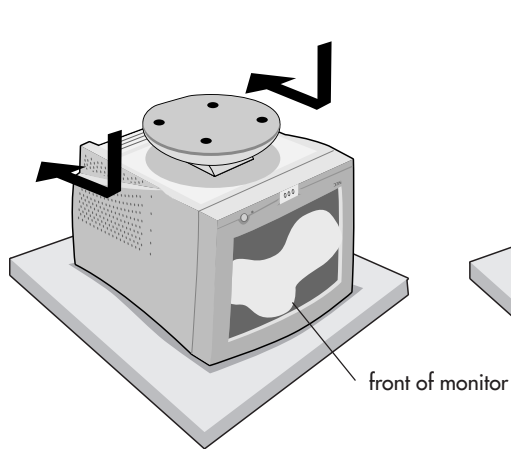

Figure TS.5
2. Push down on the latch of the tilt/swivel base and slide the tilt/swivel base backward from the front of the monitor (**Figure TS.5**).